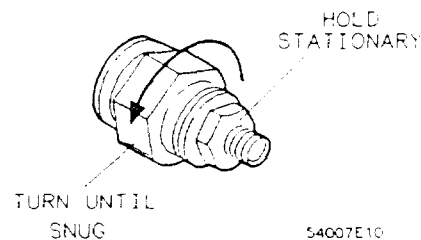

Figure B-10. Connecting 3.5 mm Devices
Figures B-10 and B-11 illustrate the Hewlett-Packard recommended procedures for making connections with the calibration devices. Notice that these recommended procedures differ from traditional procedures used in the microwave industry, especially the counter-rotation technique and procedure for connecting the airline.
2. Make the preliminary connection by attaching the connector nut of the male connector to the female. The male connector is held stationary as the female connector is tightened and draws the male pin into the female connector. Refer to figure B-10. Any other method used may cause the male pin to damage the female connector. Support the body of the device and turn the connector nut until the mating surfaces make light contact. Do not overtighten. All you want is a connection of the outer conductors with gentle contact at all points of both mating surfaces.